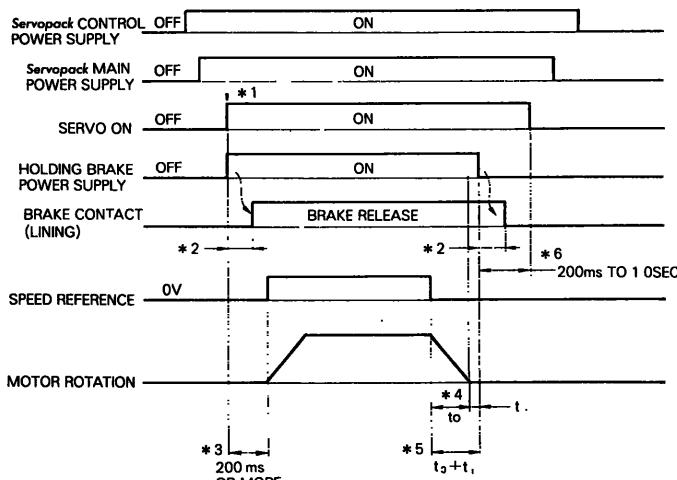

Fig. 6.29 Brake Timing
(1) This brake locks at non-magnetization. Therefore, turn off the brake power supply when the motor stops. Should the brake work while the motor is rotating, the contact causes excessive abrasion and the brake may be defective in shorter period.
(2) The brake has delay time. For operation timing of ON/OFF, see Fig. 6.29.